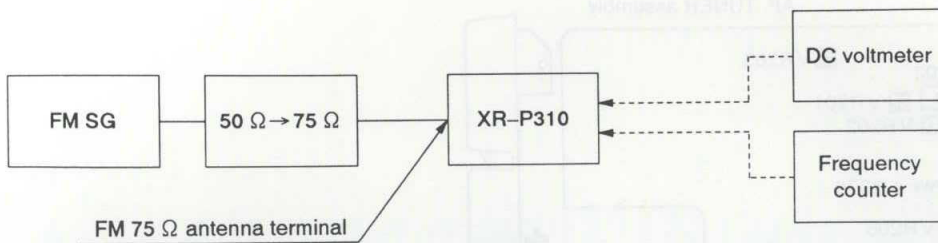

Fig. 8-1. FM Adjustment Connection Diagram
- Connect as shown in Fig. 8-1.